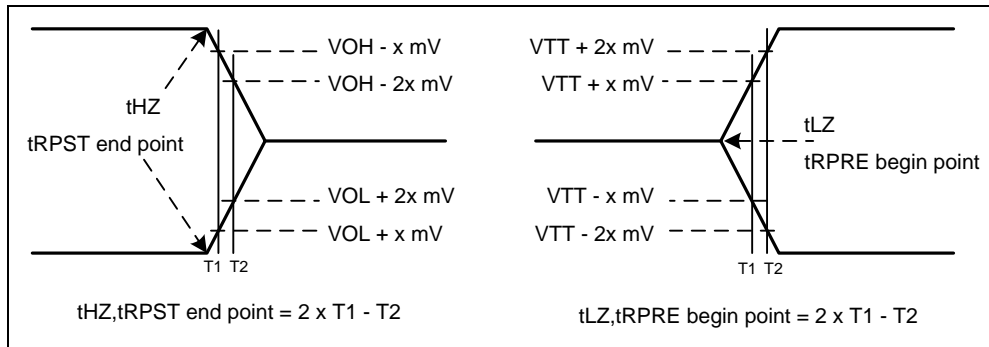

**Figure 17 – Differential input waveform timing –  $tIS$  and  $tIH$**
10. There are two sets of values listed for Command/Address input setup time:  $tIS(base)$  and  $tIS(ref)$ . The  $tIS(ref)$  value (for reference only) is equivalent to the baseline value of  $tIS(base)$  at  $VREF$  when the slew rate is 1.0 V/nS. The baseline value  $tIS(base)$  is the JEDEC defined value, referenced from the input signal crossing at the  $V_{IH(ac)}$  level for a rising signal and  $V_{IL(ac)}$  for a falling signal applied to the device under test. See Figure 17. If the Command/Address slew rate is not equal to 1.0 V/nS, then the baseline values must be derated by adding the values from table of  $tIS/tIH$  derating values for DDR2-667, DDR2-800 and DDR2-1066 (page 55).
11. There are two sets of values listed for Command/Address input hold time:  $t_{IH}(\text{base})$  and  $t_{IH}(\text{ref})$ . The  $t_{IH}(\text{ref})$  value (for reference only) is equivalent to the baseline value of  $t_{IH}(\text{base})$  at  $V_{REF}$  when the slew rate is 1.0 V/nS. The baseline value  $t_{IH}(\text{base})$  is the JEDEC defined value, referenced from the input signal crossing at the  $V_{IL}(\text{dc})$  level for a rising signal and  $V_{IH}(\text{dc})$  for a falling signal applied to the device under test. See Figure 17. If the Command/Address slew rate is not equal to 1.0 V/nS, then the baseline values must be derated by adding the values from table  $t_{IS}/t_{IH}$  derating values for DDR2-667, DDR2-800 and DDR2-1066 (page 55).